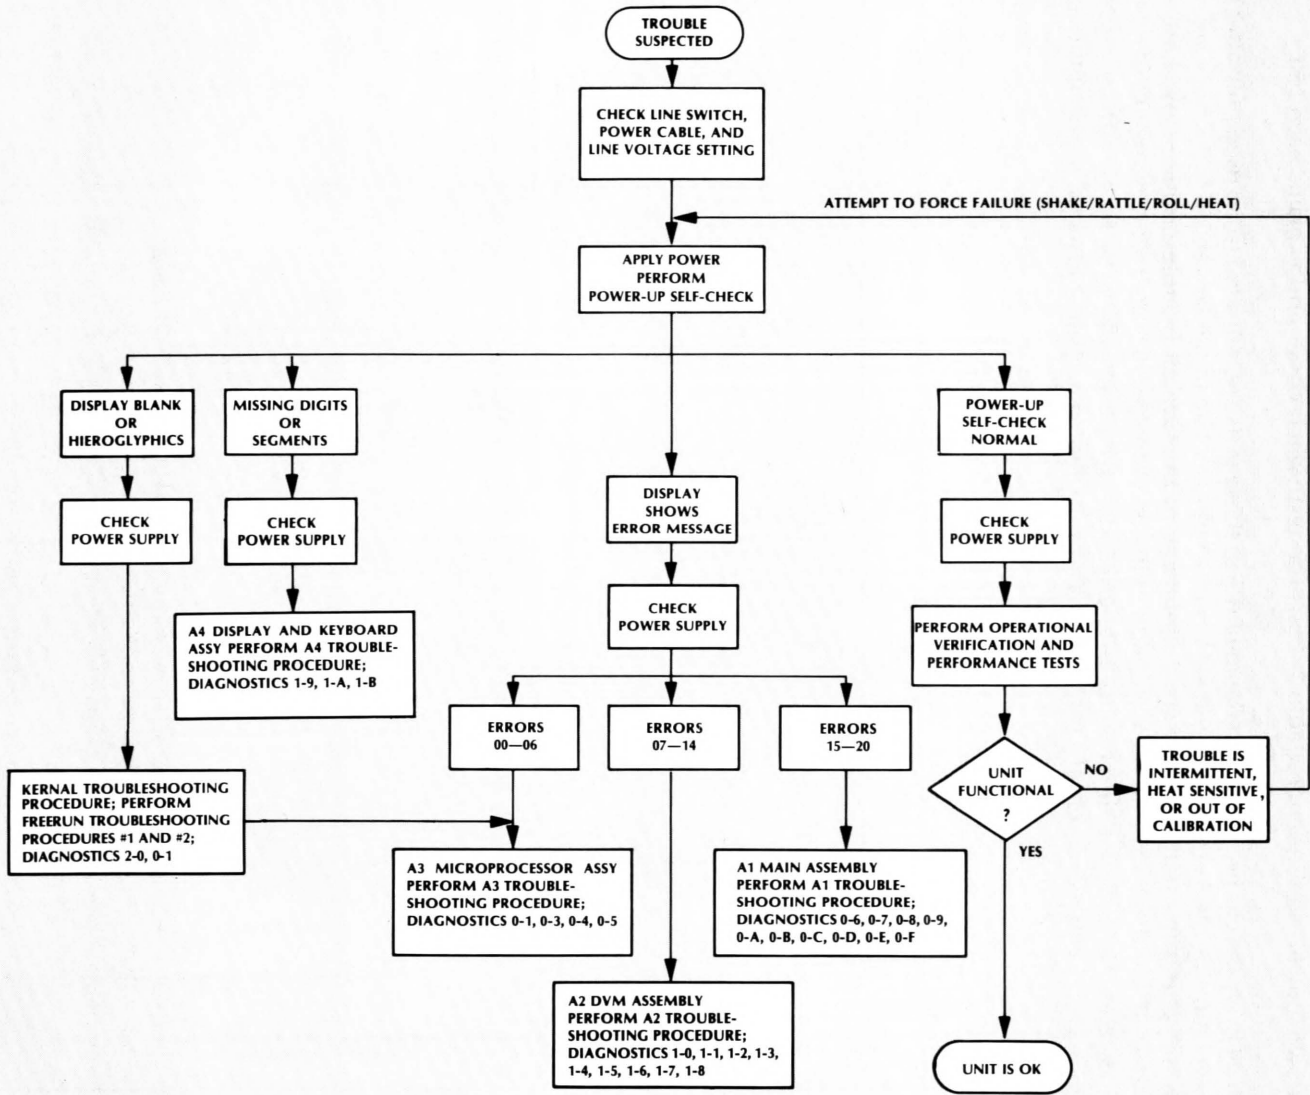

Figure 8-14. Overall Troubleshooting Flowchart
8-247. The following procedure describes the recommended preliminary troubleshooting, and references the Overall Troubleshooting Flowchart in *Figure 8-14*.
- f. Display response (2.) is an indication that the kernel is functioning properly and that, in general, only the circuitry associated with the indicated error message need be checked. Refer to the Overall Troubleshooting Flowchart, *Figure 8-14*, for specific assembly procedures.